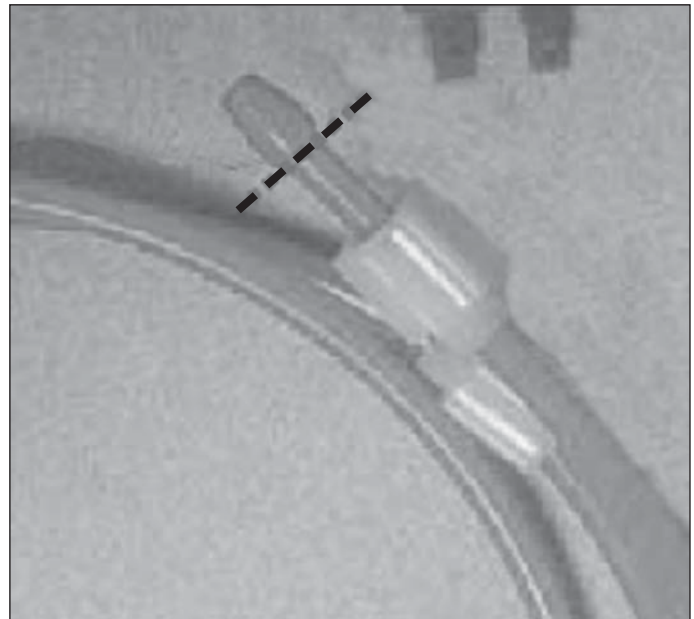

Figure 2-7c. Cut along dotted line to modify tubing.
1. Using a box cutters or knife, cut the pointed end from the water line just below the raised point. Be sure to cut straight across the water line. Do not leave open/cut end at an angle. (See Figure 2-7c)